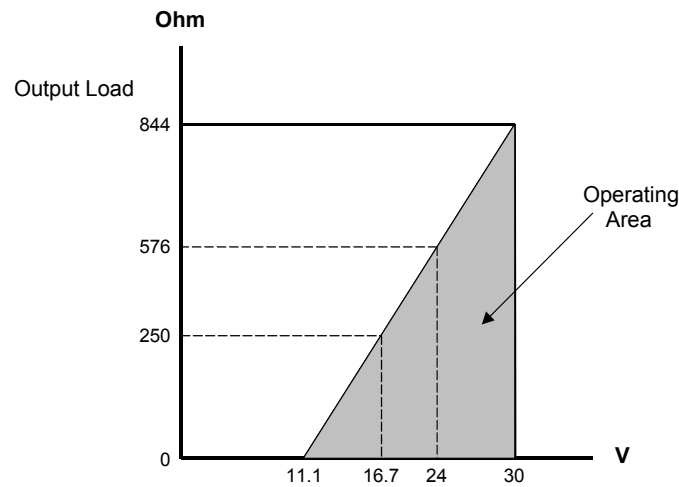

Figure 14 Operating Area
- ✓ To guarantee a 4 to 22.4 mA output signal, the minimum supply voltage must be checked. It is a function of the total resistive load (output load). This value is the sum of the resistance of each component in the circuit, excluding the transmitter. See Figure 14 for minimum supply voltage required.